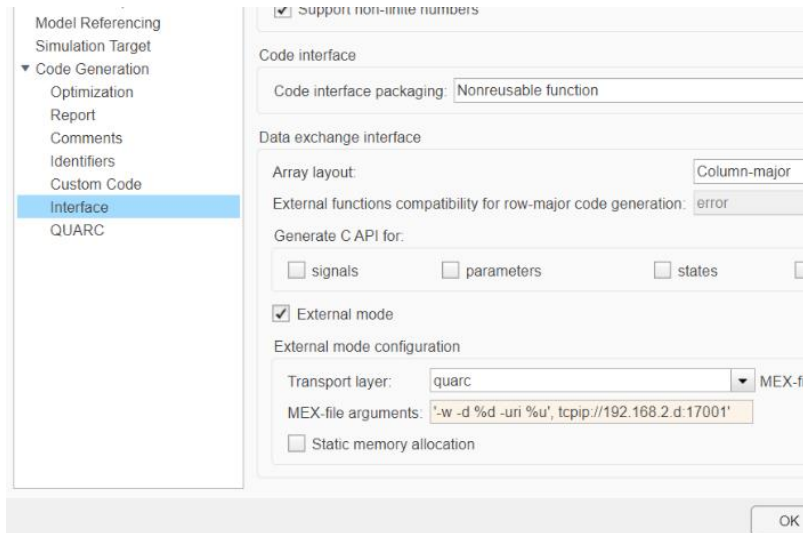

Figure 3: Setting the MEX-file arguments under Model Configuration Properties for the desired vehicle.
7. Expand **Code Generation** on the left side of the window, click on interface and set the **MEX-file arguments** (Figure 3) as follows: